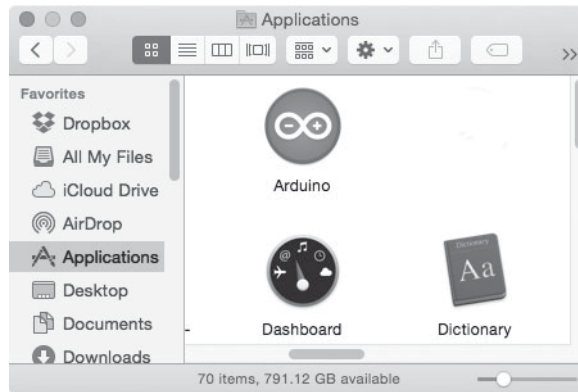

Figure 1-10: Your Applications folder
1. Open the Applications folder in Finder (shown in Figure 1-10) and double-click the Arduino icon.